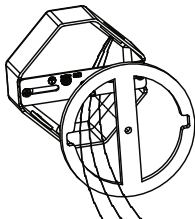

Fig. 3
4. Pull the supply wires through the gasket opening. Adhere the EVA Gasket to the crossbar and outer edge of the round, surface mount junction box. Ensure that the center machine screw on the crossbar is threading through the hole of the EVA Gasket. (See Fig. 3)